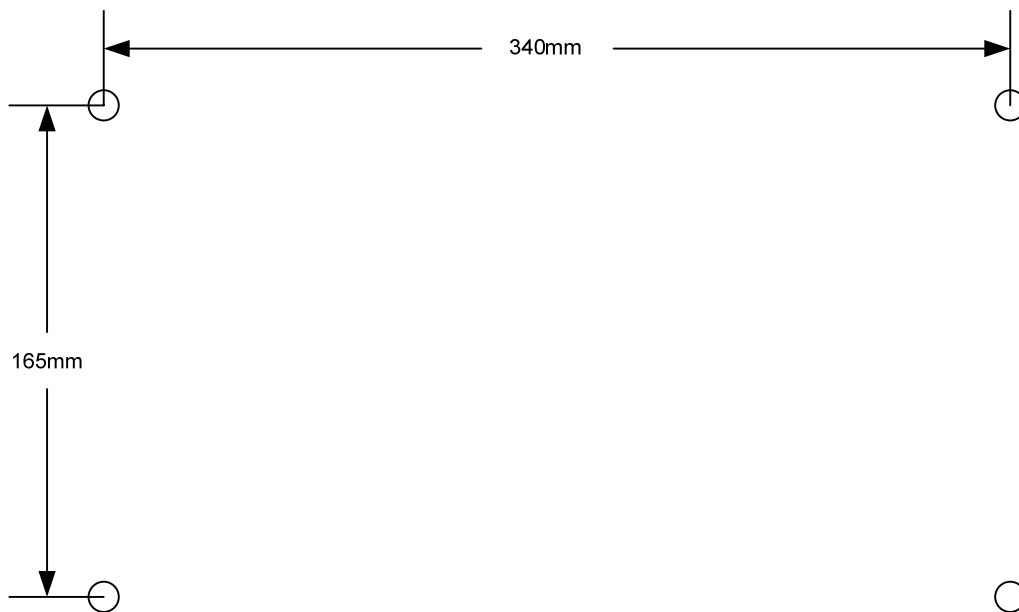

Figure 4 Drilling holes layout
1. Drill the wall to install the four M6 screw anchors according to the layout show in figure 4.